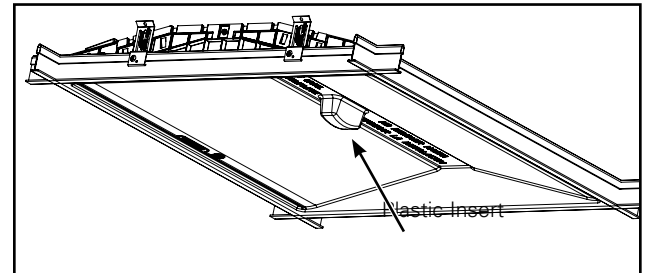

Figure 1.
2. Note that the protective plastic insert that is shipped in the luminaire is intended to stay in the luminaire for protection of the lenses during installation (Figure1.). Take caution when handling the luminaire to not scratch or damage the lenses in the fixture.